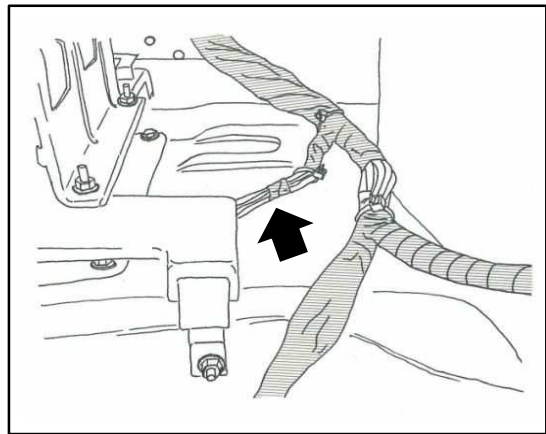

Fig. 1 Cut the harness here
- (2) Remove the bolt & nut, then remove the reinforced panel strut tower bar.
- (3) Locate and cut the Black/Yellow & Brown (thick) wire that is in the front right of the trunk room (Fig. 1).
- ① Connect the black / yellow wires to the fuel pumps side female connector, the vehicle sides (modulator side) wires are then to be joined to the male connectors.
- ② Connect the female terminal to the brown wire on the fuel pump side, and then the male terminal to the vehicle side (modulator side).
- (4) While referring the basic wiring diagram, connect the black/yellow (3) to red wire & the brown wire to the black and red wire on the relay harness.
- (5) Connect the power (Red) wire to the battery's positive terminal. Then connect the 3 black wires to the negative (ground) terminal.